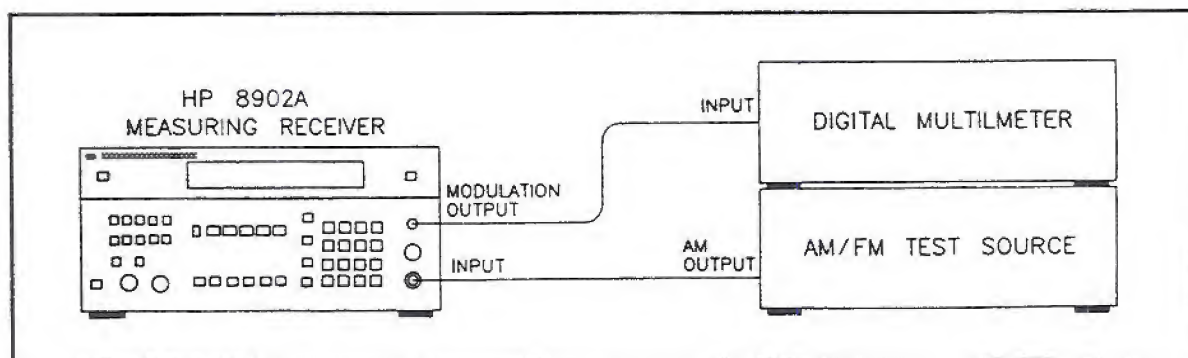

Figure 4-2. Measuring Receiver Residual AM Verification Test Setup
- a. Connect the modulation output of the measuring receiver to the input of the digital multimeter and the AM output of the AM/FM test source to the input of the measuring receiver as shown in Figure 4-2. Nothing should be connected to the audio input of the AM/FM test source.